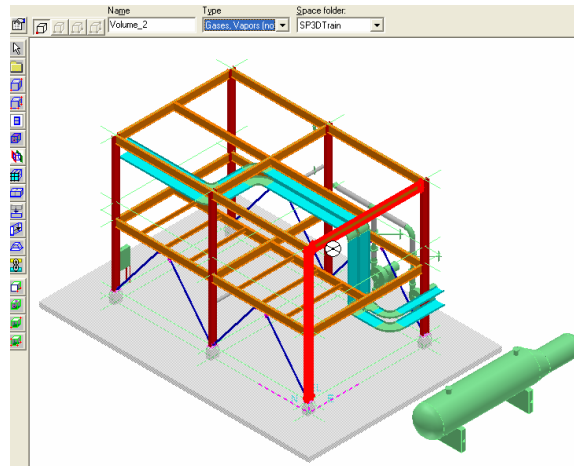

Figure 6: Enter First Point – Origin of the Volume
5. Enter four points, as shown in Figures 6 to 9.